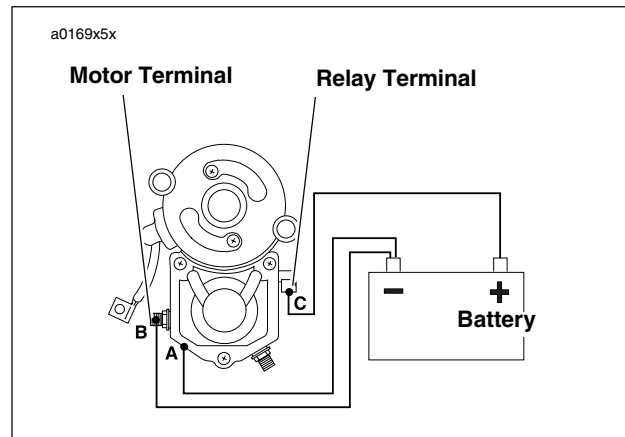

Figure 5-13. Pull-In Test
Do not disassemble solenoid. Before testing, disconnect field wire from motor terminal as shown in Figure 5-13.
- See Figure 5-13. Using a 12 volt battery, connect three separate test leads as follows: